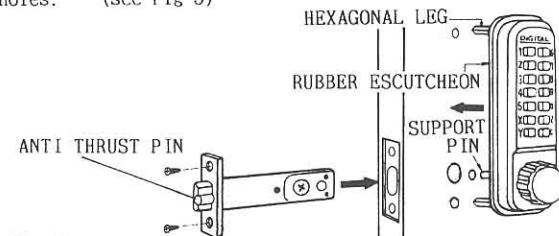

Fig 5
- III. 1. Fit Rubber Escutcheon provided part (14) to the Outside Body.
2. Insert the 2 x Hexagonal Posts and Support Pin through the holes. (see Fig 5)